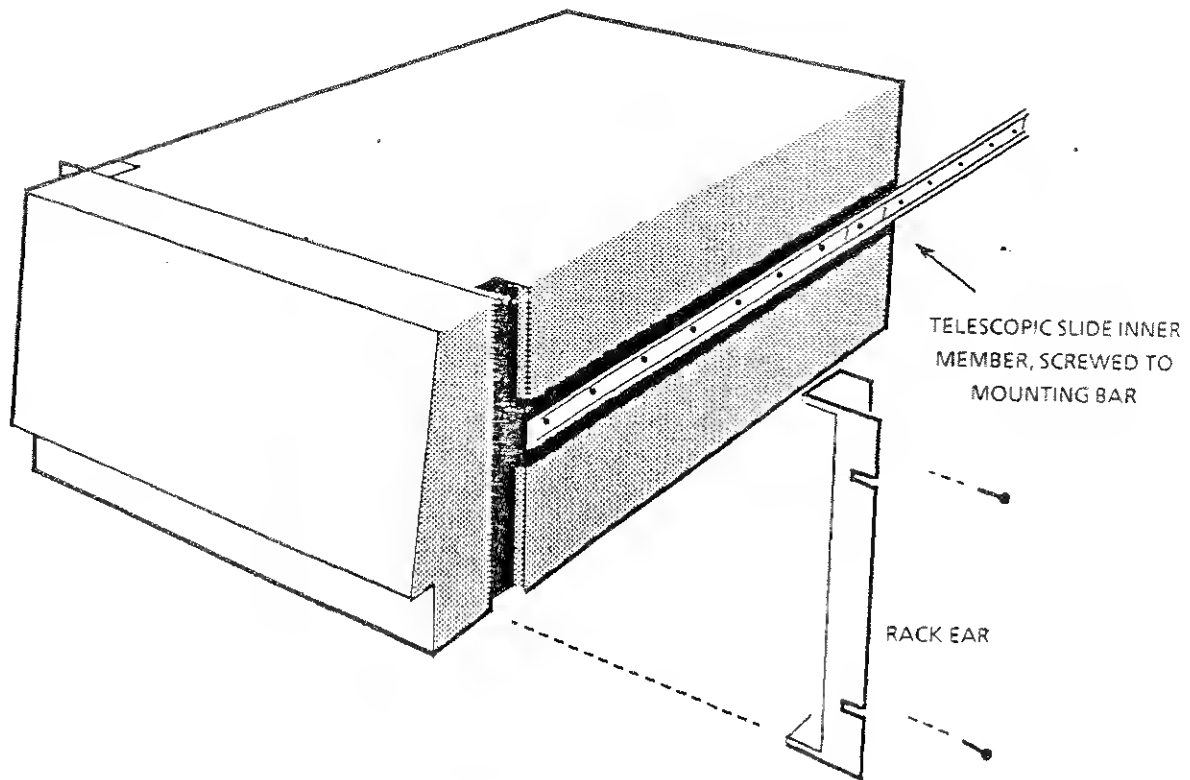

Fig 2.6 *Fitting rack ears and telescopic slide inner members*
2. As shown in Fig. 2.6, fit the following items to the instrument:
1. As shown in Fig 2.6.